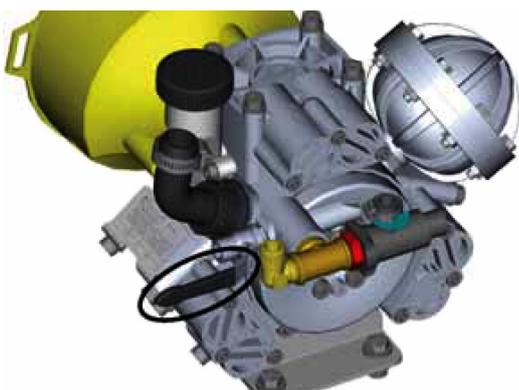

Figure 37
4. Switch on the hydraulic mixer valve on the pump (Figure 37).